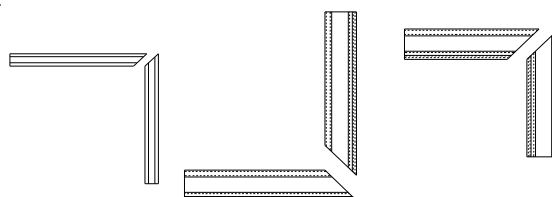
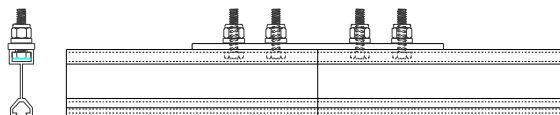

Figure 10
Figure 11
**STEP 16.** If necessary for a transition, miter the subchannel to match the mating, installed subchannel (see Figure 10).
**STEP 17.** Select the splice bar, the splice bar bolts and the lock nuts. Slide two (2) splice bolts into the splice end of the receiver of each section of mating subchannel. Ensure that the splice bar conforms to the splice or transition.
**STEP 20.** Using the lock nuts, attach the splice bar to both of the mating subchannels (see Figure 11).